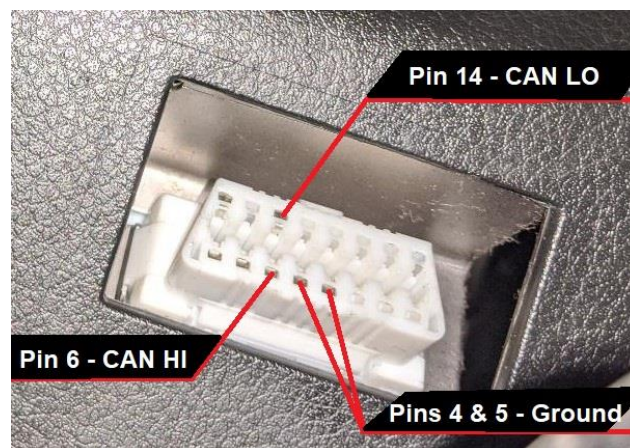

Figure 2. The ground, CAN HI, and CAN LO pins in a 2008 Nissan Altima.
2. Determine which pins are CAN HI (CANH), CAN LO (CANL), and Ground. This may vary, however in most cases pin 6 is CANH and pin 14 is CANL. An example of the pin locations can be seen in Figure 2.